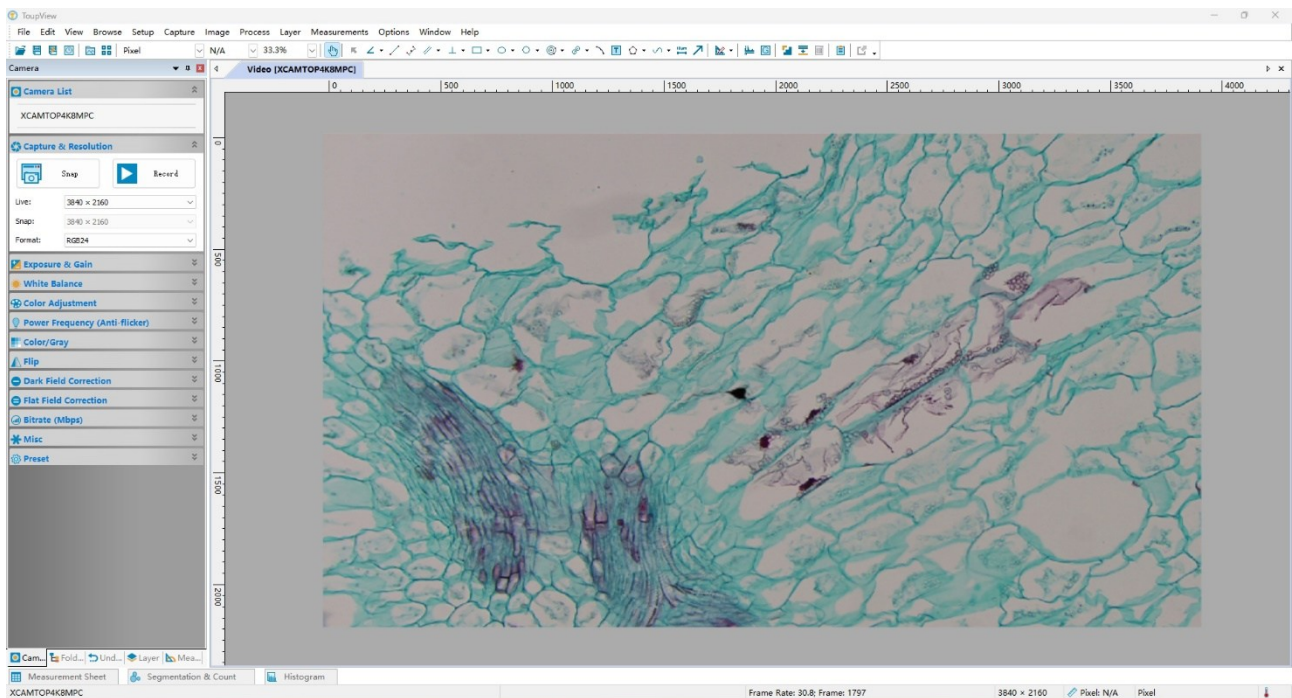

Figure 6 ToupView and SWIR330KMB-WUH Camera in USB Mode
- Install ToupView/ToupLite on your PC or install ToupView App on the mobile device; Run the software ToupView/ToupLite, clicking the camera name in the camera list n to start the live video as shown in Figure 6.